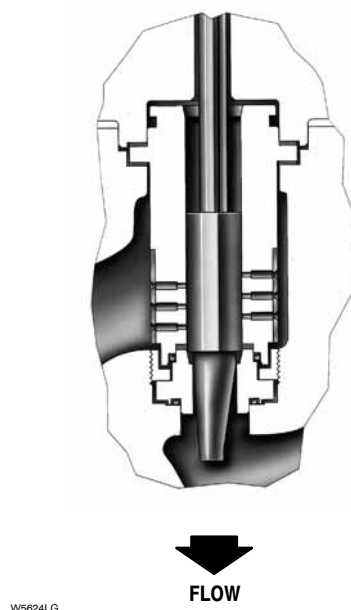

Figure 8. CAV III Micro-Flat Trim
**(G)— CAV III Micro-Flat**—Cage-guided cavitation elimination trim. This trim is a CAV III multi-stage trim with the addition of a Micro-Flat style plug to provide staged performance at low flows. Allows CAV III staged cavitation control as low as  $C_v = 0.05$ . See figure 8.
CAV III Micro-Flat trim (figure 8) is a cavitation elimination trim. Designed as an enhancement to extend the low flow capability of Cavitrol® III, this is a cage-guided trim with the addition of a Micro-Flat plug.